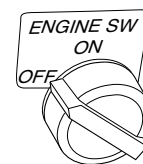

Figure 33 – Engine Switch In OFF Position, All Models Except 3WY46, 3WY45, and 3WY47
3. Turn engine switch to the OFF position (See Figures 33 and 34).